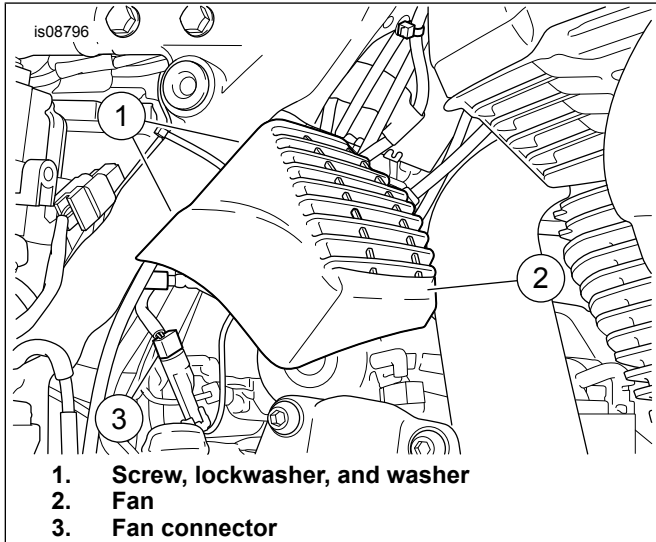

Figure 2. Position the Fan
2. See Figure 2.. Position fan assembly. From within battery tray area, install screws (1), lockwasher (2) and flatwashers (3). Tighten to: